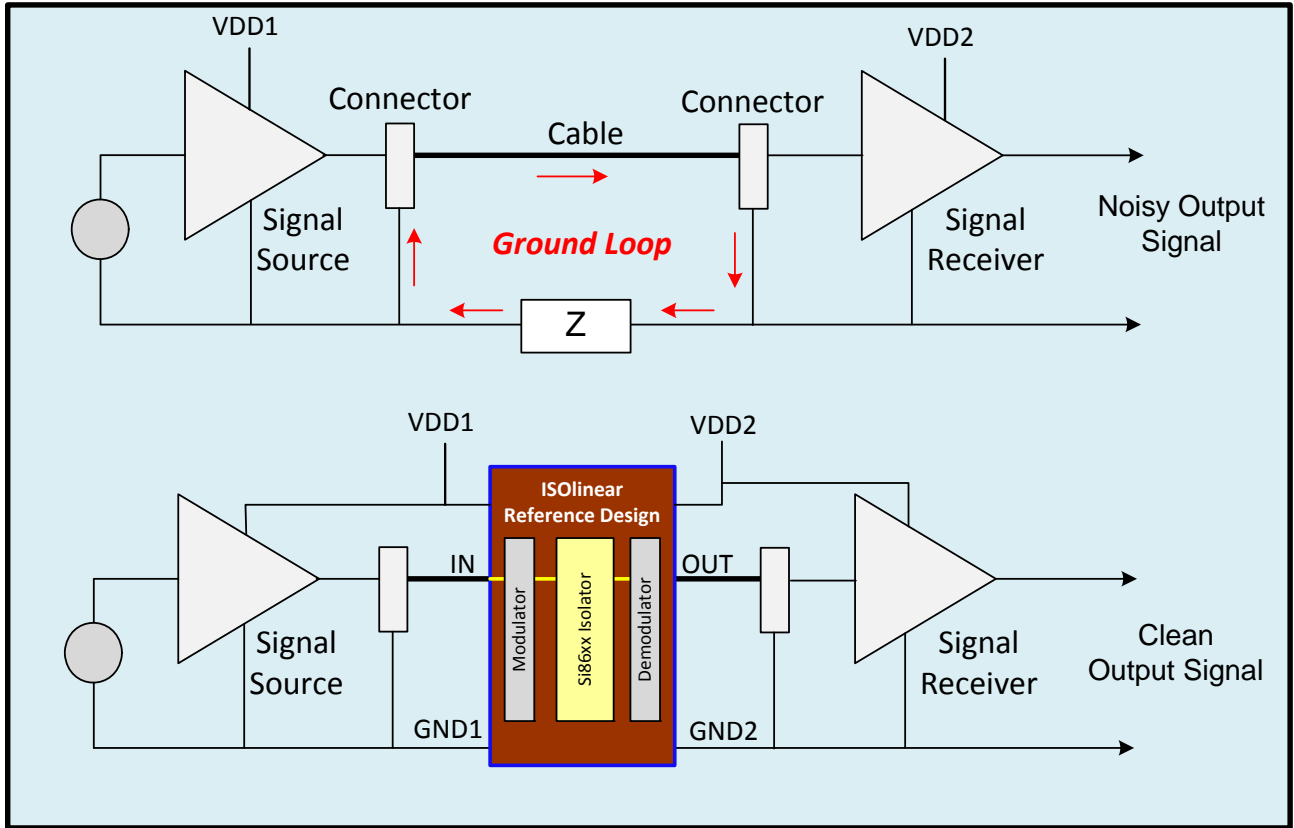

Figure 8. Ground Loop Elimination Circuit
Figure 8 shows a common ground loop in the transmission path of two linear circuits (a common scenario in test and measurement, audio and other applications that use cable interconnects). The ground loop in the top diagram circulates between the connector grounds while parasitic inductance (Z) causes ringing that generates output noise. The bottom circuit of Figure 8 inserts the ISOlinear circuit between the signal source and receiver, breaking the ground loop and dramatically reducing the local ground path lengths and associated parasitic inductance.